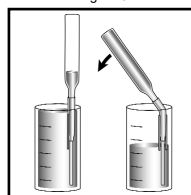

Figure 4
6. Place the VACUette between the vertical tip guides on the inside of the dilutor snapper cup. Snap the ampoule tip. The ampoule will fill leaving a bubble for mixing (fig. 4).